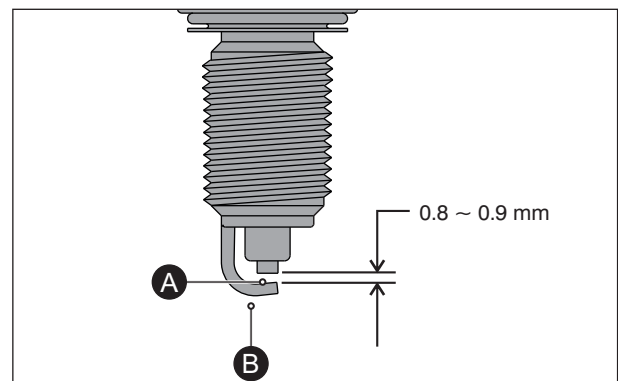

Fig. 2.39
- Check the spark plug for wear of central (A) and ground electrode (B). If either of them are worn-out replace the spark plug with a new one. (Fig. 2.39)